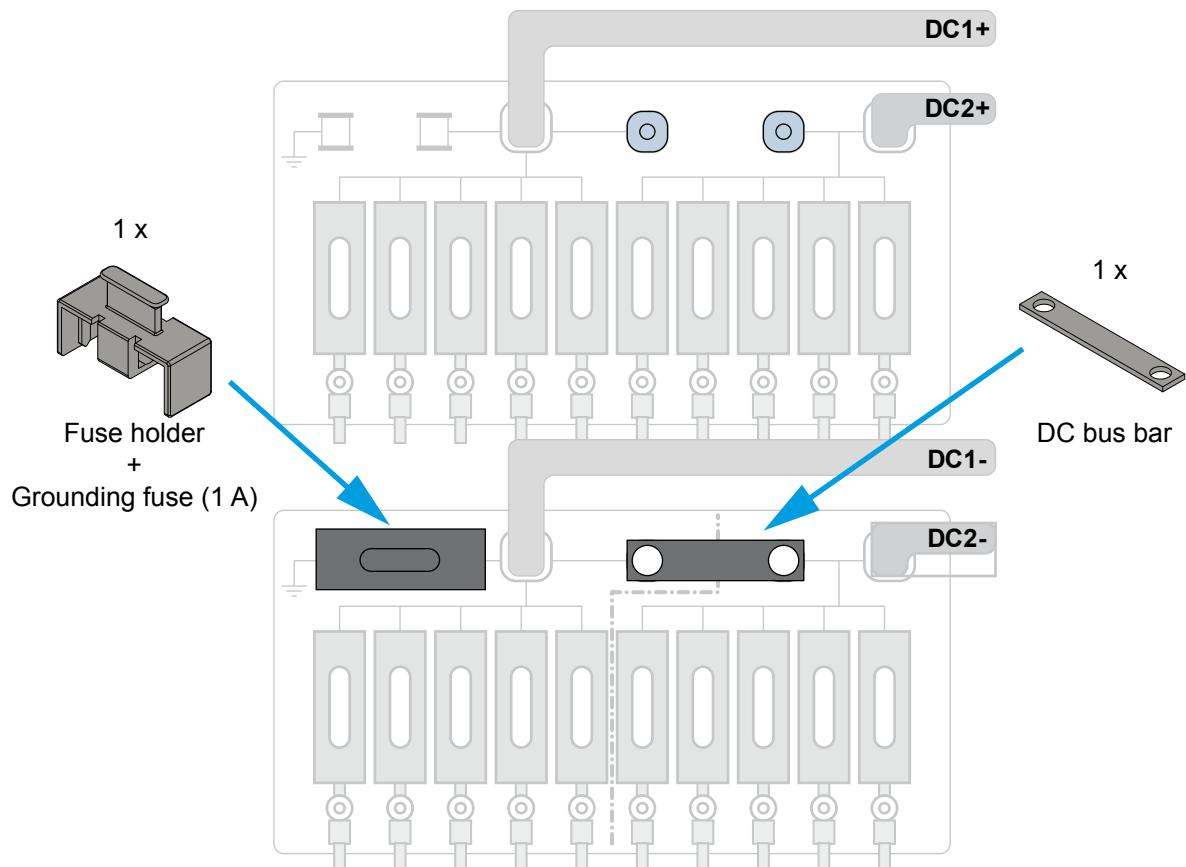
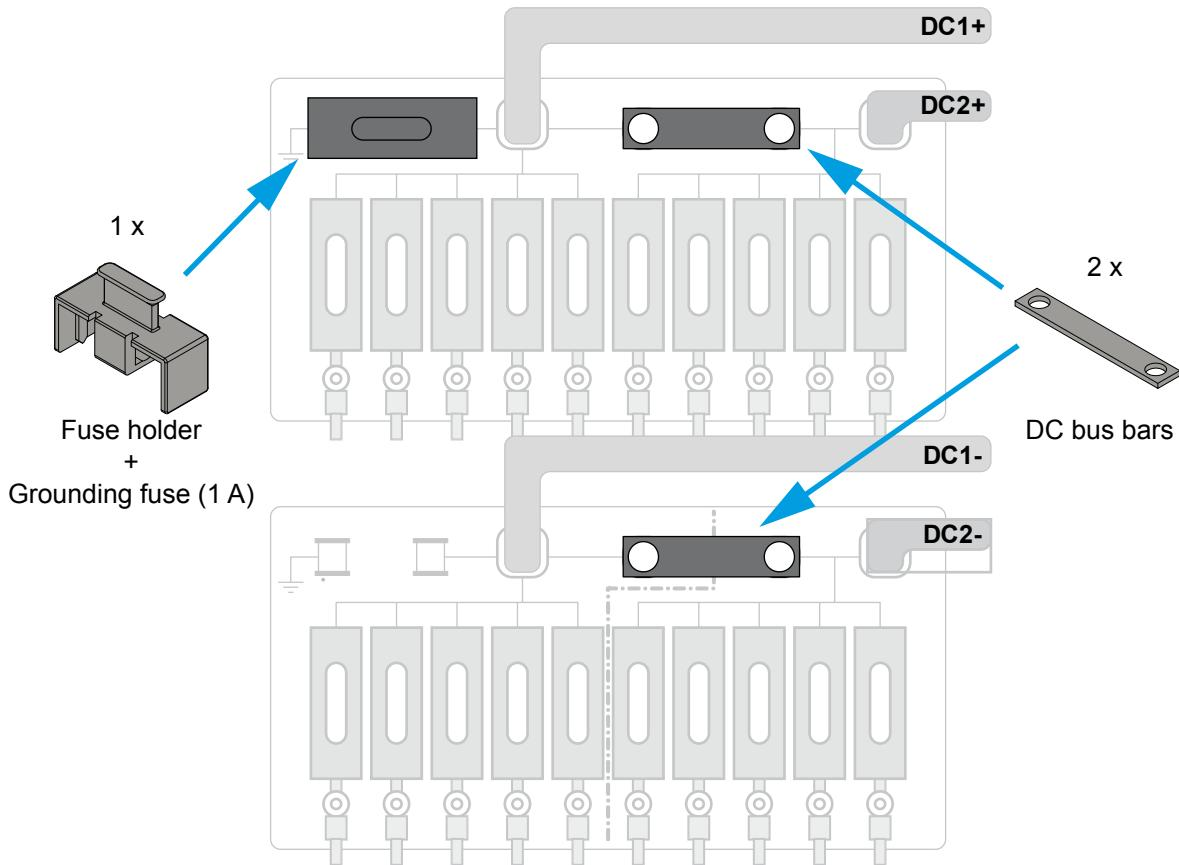

Fig. 5.17: Preparing the inverter for use with minus grounded solar modules
Fig. 5.18: Preparing the inverter for use with plus grounded solar modules
You have to prepare the inverter for use with grounded solar modules, see Fig. 5.17, p. 29 and Fig. 5.18, p. 30. Because you have to remove the cover of the fuse section, you should do this before you hang the inverter on the wall and do it in a dry environment. For a detailed description how to do this, see "6.5 Connecting to the solar modules (DC)", p. 42.